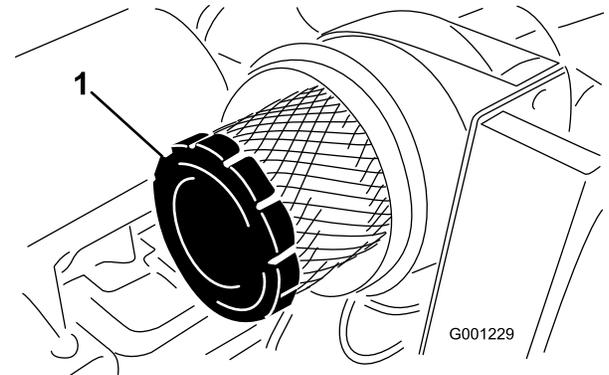

Figure 48
4. Remove and replace the primary filter (Figure 48).